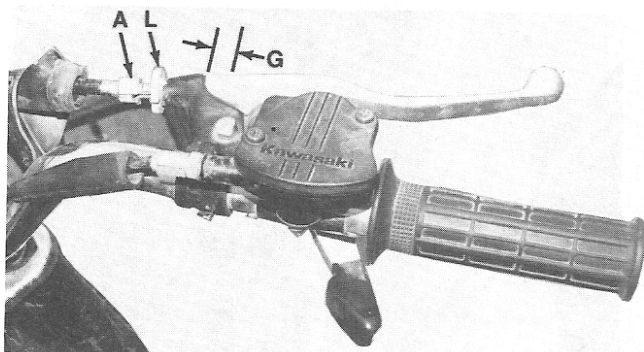

Fig. K7-22—Front brake lever free travel is measured at gap (G). Turn adjuster (A) for brake lever adjustment.
R&R AND OVERHAUL. To remove front axle and wheel assembly, first suitably support front of vehicle under engine. Turn the front brake adjuster (A—Fig. K7-22) at brake lever completely in. Loosen front brake adjuster nut (N—Fig. K7-23) at brake shoe cam lever. Remove cotter pin securing front axle nut and unscrew nut. Pull axle out of fork or suspension arm depending on model and hub. Tilt the wheel, and lift out brake backing plate and shoe assembly from brake drum. Withdraw wheel and hub from front fork. Remove wheel retaining nuts and separate wheel and hub.
INSPECTION AND ADJUSTMENT. The brake system should be inspected and adjusted after the first 10 hours or 100 miles of operation and then after every 10 days or 100 miles of operation. The front brake lever should have 4-5 mm ($\frac{1}{8}$ - $\frac{1}{4}$ in.) of free travel measured at gap between lever and base as shown at (G—Fig. K7-22). To adjust brake lever travel, turn adjuster (A) at lever completely in. Rotate adjuster (N—Fig. K7-23) at brake shoe cam lever until desired brake lever free travel is obtained. Minor brake lever adjustment can be accomplished by turning cable adjuster (A—Fig. K7-22) on lever assembly. Secure adjuster with knurled locknut (L) after adjustment.